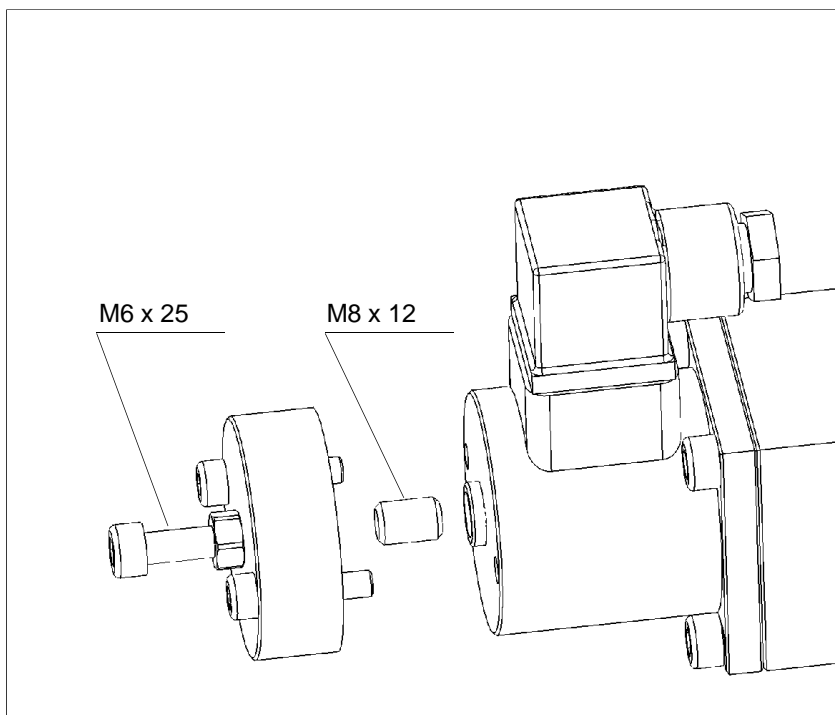

Fig. 10.1 Removal of the servo valve back
1. Remove the servo back according to Fig. 10.1.